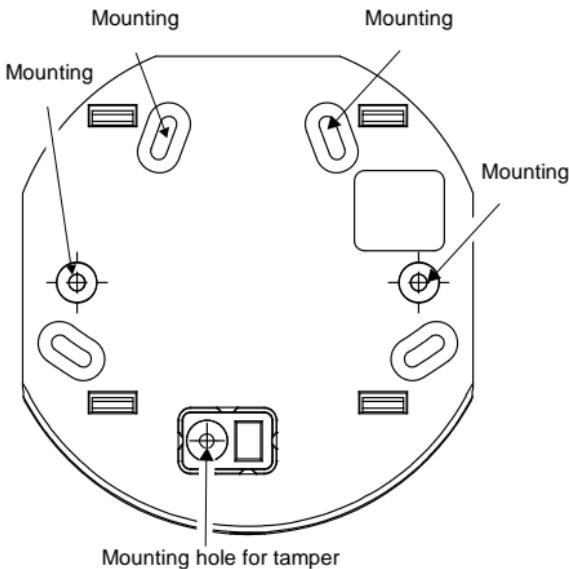

Figure 1
1. Before mounting the keypad test the keypad communication with the system. To do so, try to arm the system using one of the arming buttons on the wireless keypad (see Figure 1).
2. Attach the mounting bracket to the wall using the supplied screws (see figure 1).